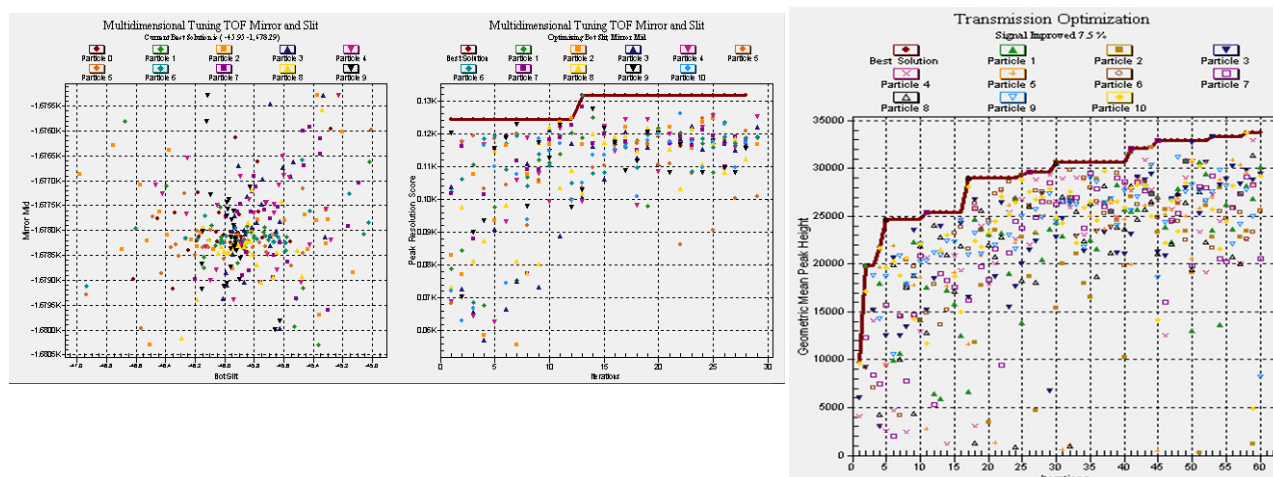

Figure 27 SWARM multi dimensional tuning to find the best combination of all parameters
- The red line represents the best scores achieved by the swarm. See Figure 27 on page 66.